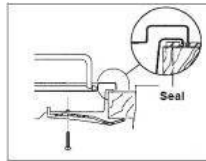

Figure 7
- Fix the hob with the relevant fixing clamps and screws, as shown in the diagram. When the screws have been tightened, the excess seal can be removed. (See Figure 7*)